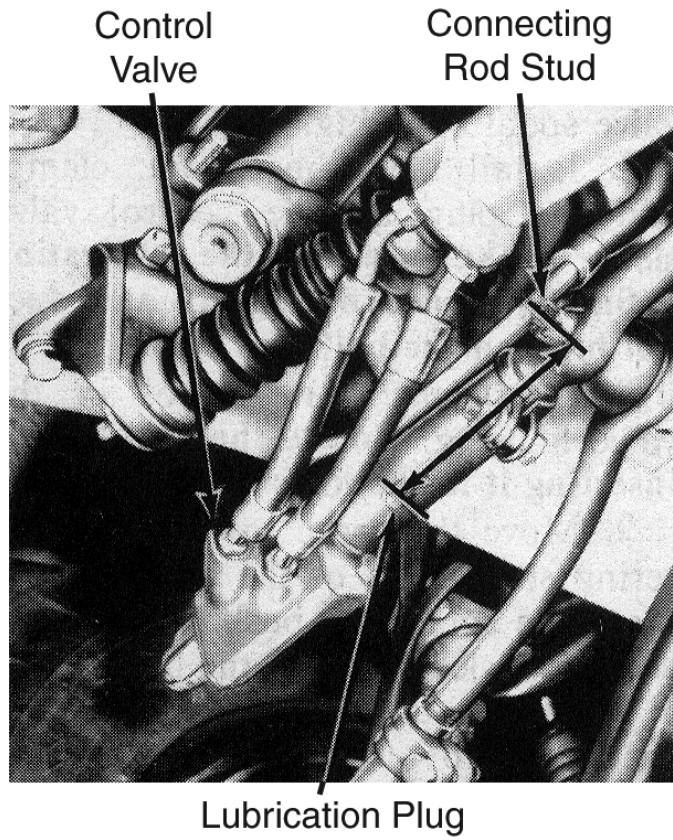

Figure 1
- c) Measure the distance between the center of the grease plug in the valve sleeve and the center of the stud at the inner end of the left spindle connecting rod. The distance should be $5\frac{5}{8}$ " for Montego, Falcon, Maverick and Fairlane vehicles. The distance should be $4\frac{7}{8}$ " for Mustang and Cougar models. Mark down the dimension so you can reference when installing. See figure 1.
- e) Remove the control valve ball stud cotter pin and nut. Remove the ball stud from the pitman arm. This may require a ball stud removal tool not included in this kit. See figure 1.